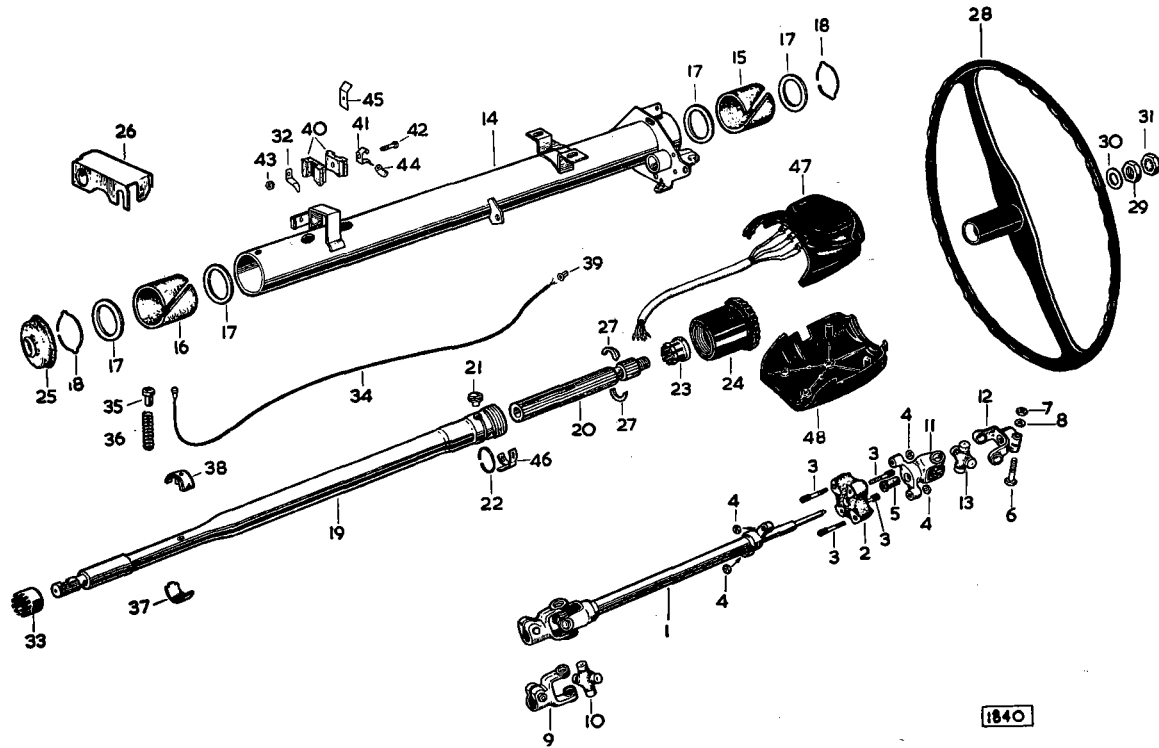

Fig. 4. Exploded view of the steering column assembly (Early cars)
Unscrew the four setscrews securing the horn ring cover to the steering wheel and remove the horn ring assembly. Undo the locknut (31, Fig. 4) and the nut (29) securing the steering wheel to the inner column. Withdraw the steering wheel and collect the two halves of the split cone (27).
Remove the two screws and washers securing the top half of the nacelle (47, Fig. 4) to the bottom half.
Unscrew the locknut, (31, Fig. 4), nut (29) and plain washer (30) securing the steering wheel (28) to the shaft (20) inside the inner column (19).